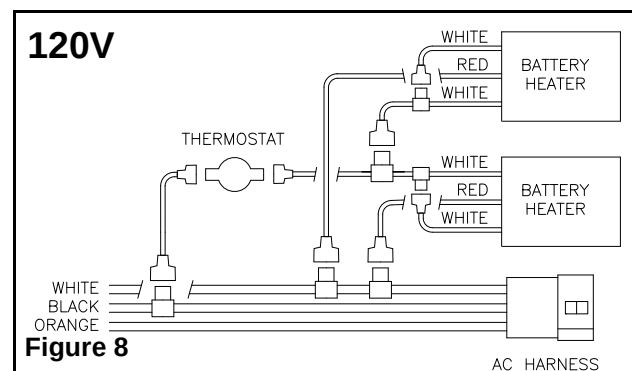
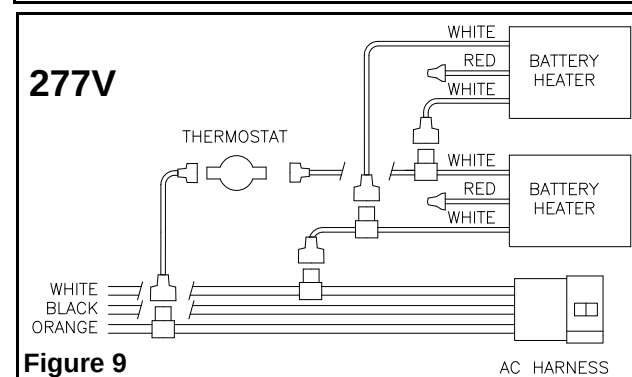

Figure 8
Figure 9
- b. Refer to figure 8 for 120VAC input voltage and to figure 9 for 277VAC . Use wire taps provided with the hardware kit to connect battery heater. Unused wires must be insulated to prevent shorting.